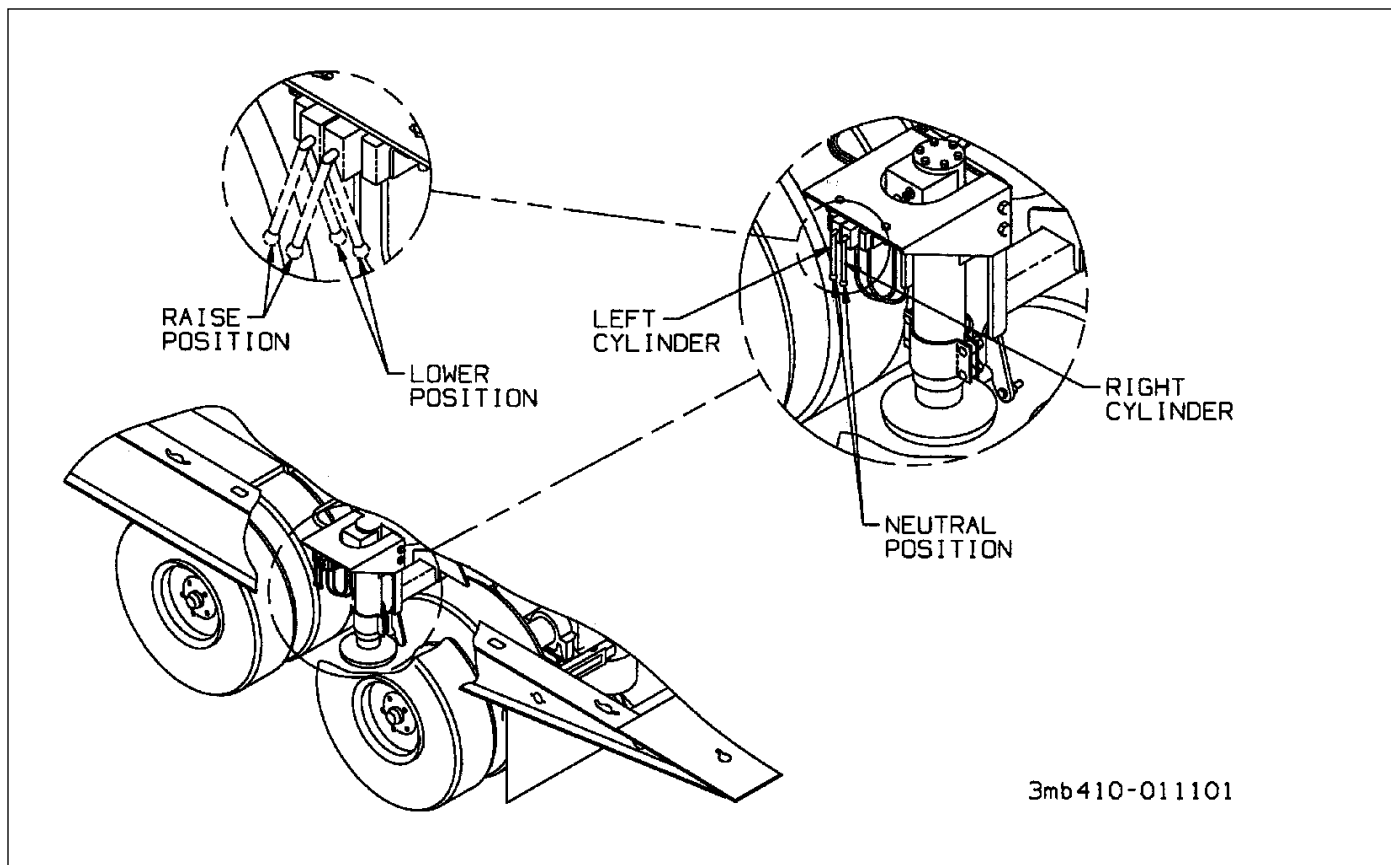

Figure 3-6: Dock Leveler Controls
2. The **DOCK LEVELER CONTROLS** are located under the deck, on the driver's side, between the axles (**See Figure 3-6.**) The front-most control adjusts the cylinder on the driver's or street side of the trailer. The rear-most control adjusts the cylinder on the curb-side of the trailer. Both controls have three positions: